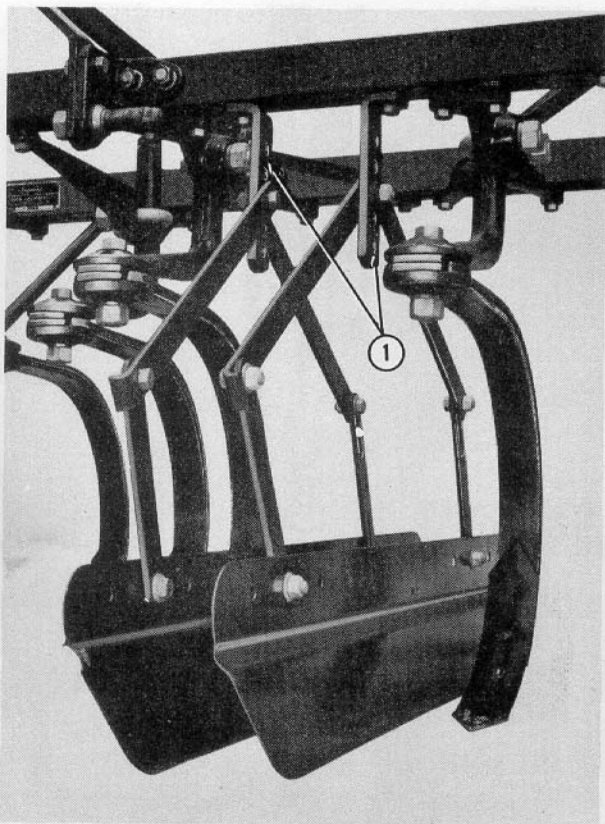

Figure 7
8. Attach the shield support arms (1), Figure 7, to the main frame. Attach the fenders and the shield support arms as shown in Figure 7.